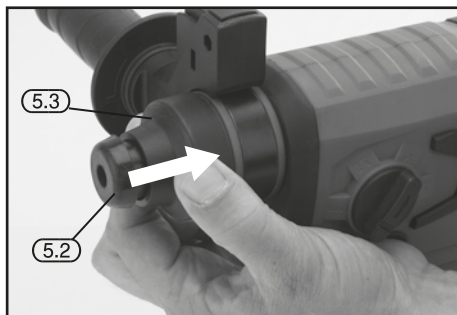

FIG.10
9.6 SDS+ SYSTEM – FIGS. 10 – 11